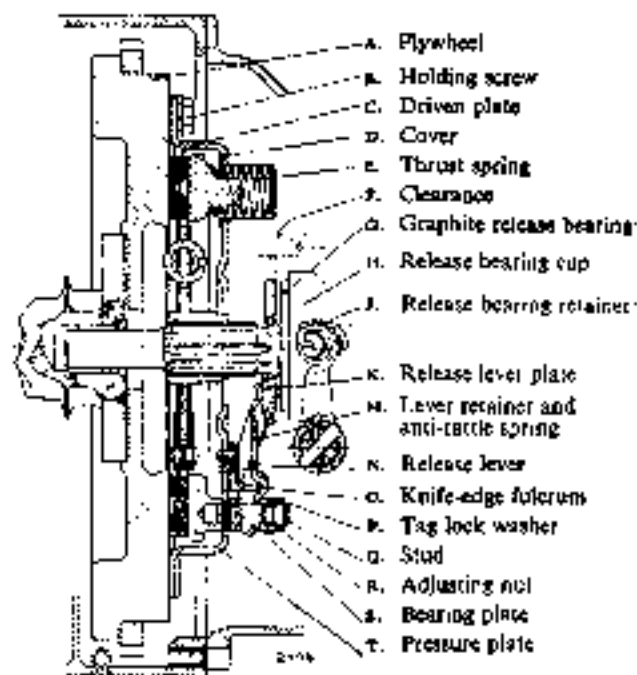
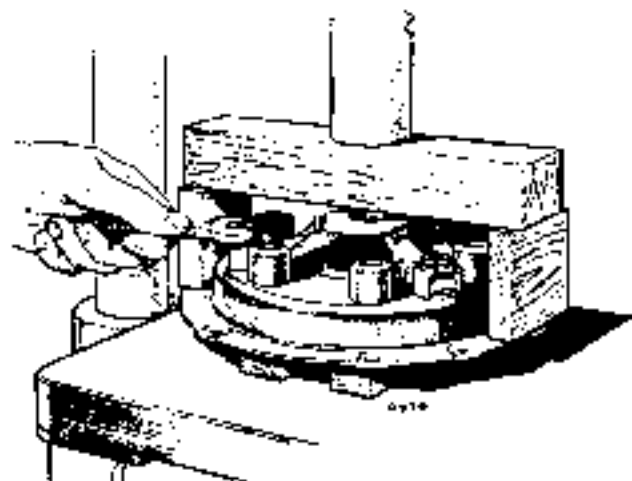

Fig. E.1
Fig. E.3
The general construction may be followed by reference to Fig. E.1 and the following description.
First straighten the bent-up lobes of the tag lock washers (P) (Fig. E.1), then place the cover on the bed of the press with the pressure plate resting on wood blocks so arranged that the cover is left free to move down. Place three blocks of wood to form a bridge, the legs of which should rest on the outer rim of the clutch cover as shown in Fig. E.3.
Compress the cover with the spindle of the press, and, holding it under compression, remove the adjusting nuts (R) (Fig. E.1) and then slowly release the pressure to prevent the thrust springs from flying out.
the release lever ends. Finally, the retaining springs (24) should be fitted into the grooves formed in the release lever plate as indicated in Fig. E.1.